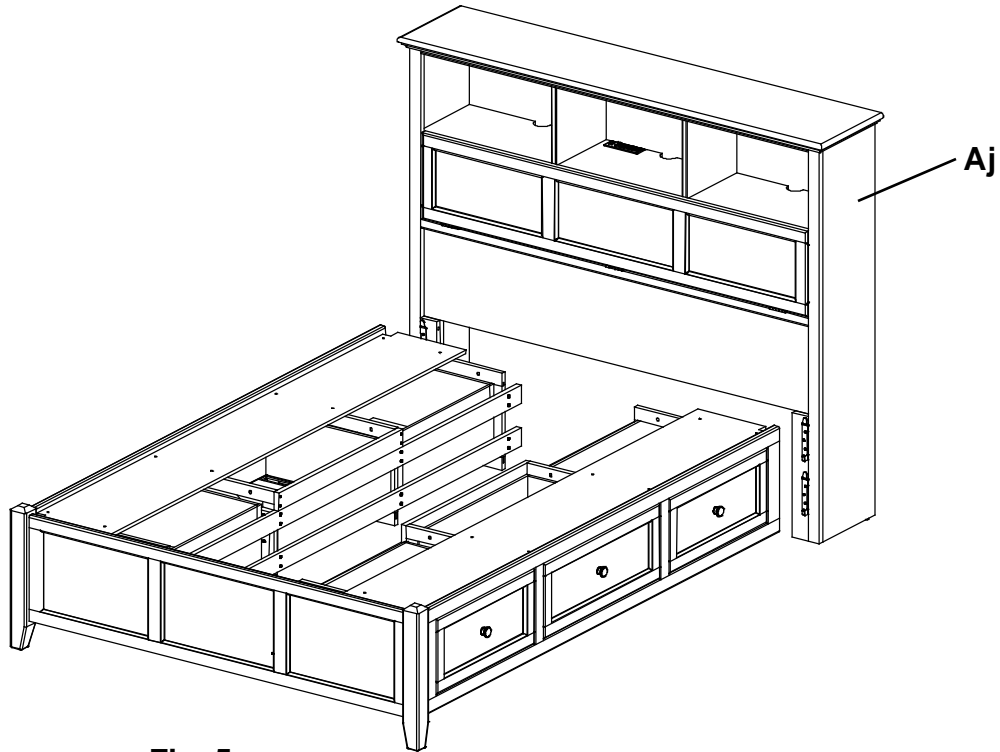

Fig. 5
5. Align the Brackets on both sides and slide the Pedestal/Footboard assembly down on to the Headboard (Aj). See Figure 5.